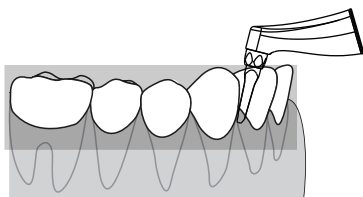

Figure 9 Periodontal sandblasting operation
4. When using the device to perform normal periodontal scaling, it is recommended to use the nozzle to remove the plaque from the periodontal pocket of 1~3mm below the gingival, and perform up and down lifting and scaling during use. (See Figure 9)